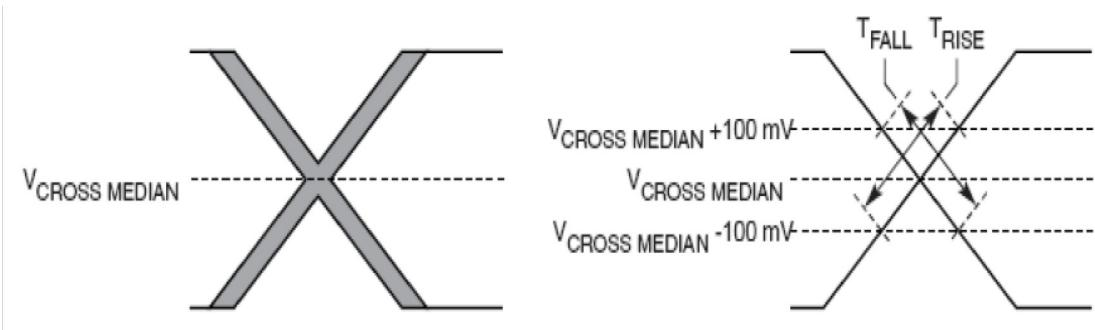

Figure 43. Single-Ended Measurement Points for Rise and Fall Time Matching
- ⁶ Matching applies to rising edge for SD_REF_CLKn and falling edge rate for SD_REF_CLKn_B. It is measured using a 200 mV window centered on the median cross point where SD_REF_CLKn rising meets SD_REF_CLKn_B falling. The median cross point is used to calculate the voltage thresholds that the oscilloscope uses for the edge rate calculations. The rising edge rate of SD_REF_CLKn should be compared to the falling edge rate of SD_REF_CLKn_B; the maximum allowed difference should not exceed 20% of the slowest edge rate. See Figure 43.